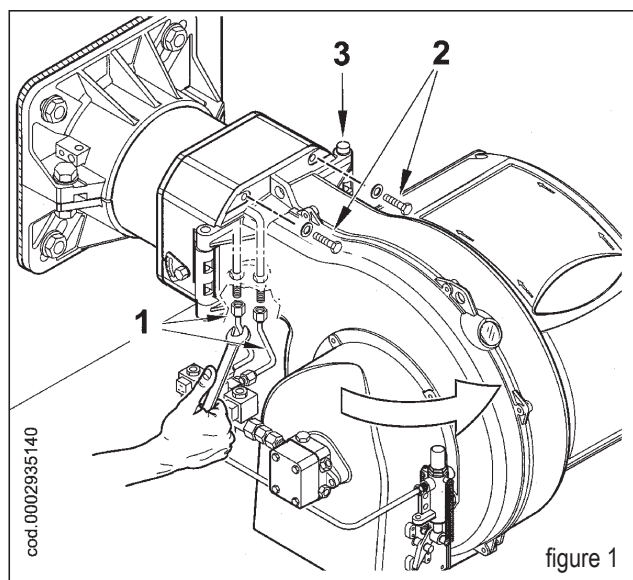

figure 1
- 2) Unscrew screws 2(four) and turn the burner around pin 3 in the hinge (figure 1).